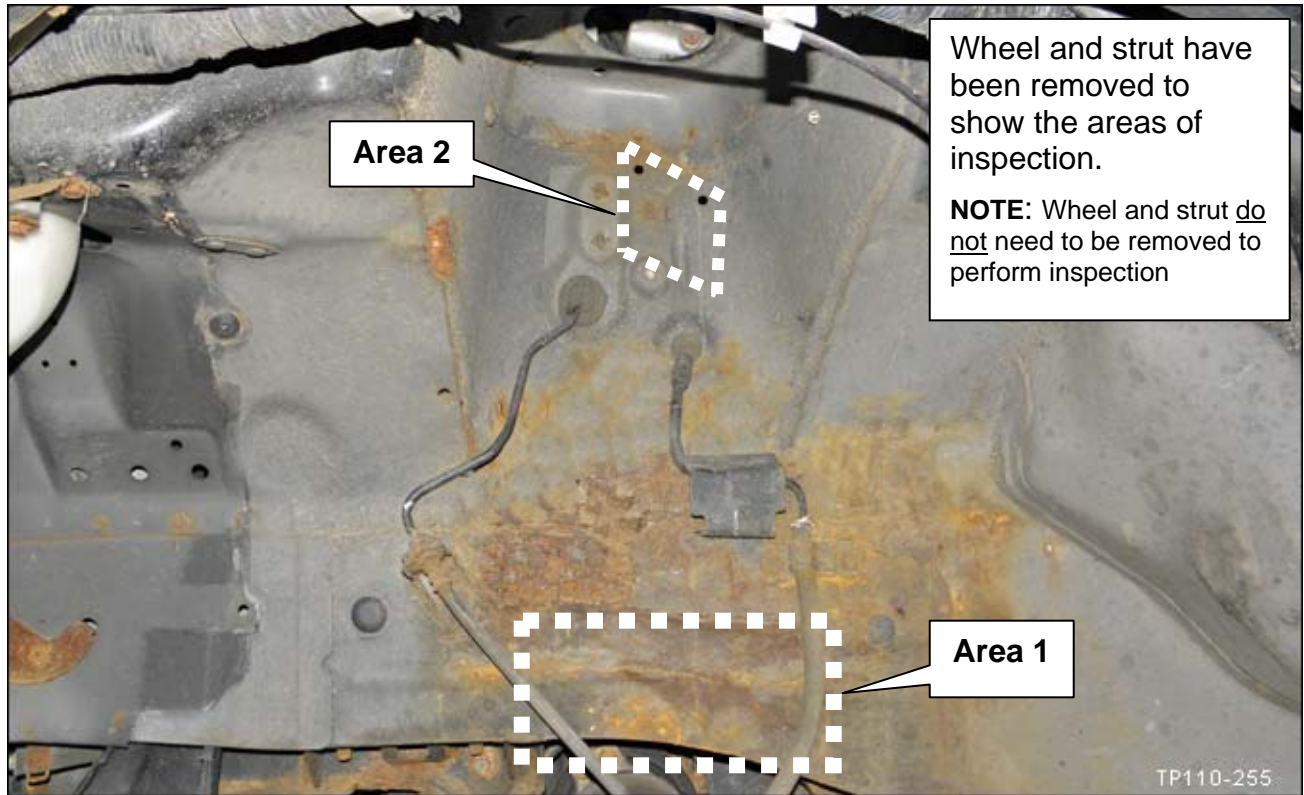

Figure 2
5. Inspect for corrosion in **area 1** and **area 2** (see Figures 2, 3, and 4).